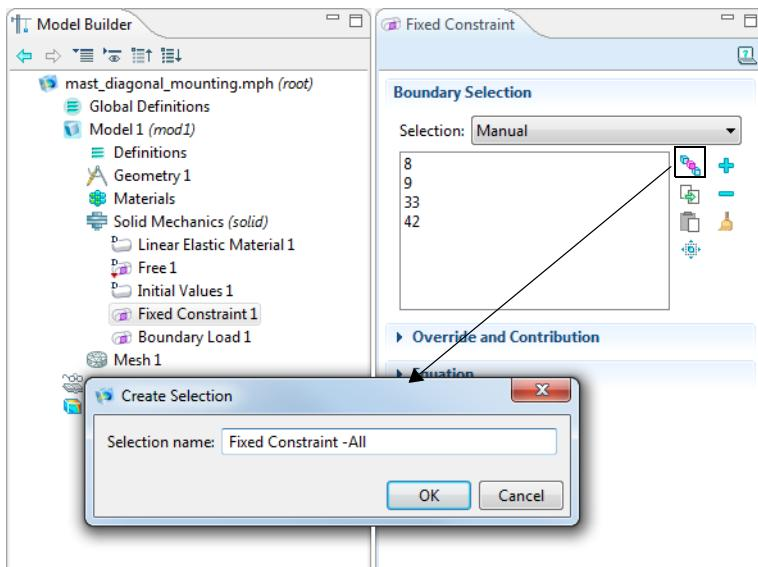

Figure 5-8: Creating a selection from the settings window for a Fixed Constraint node.
- 3** Click the **Create Selection** button () and enter a **Selection name** in the window that opens. See Figure 5-8.